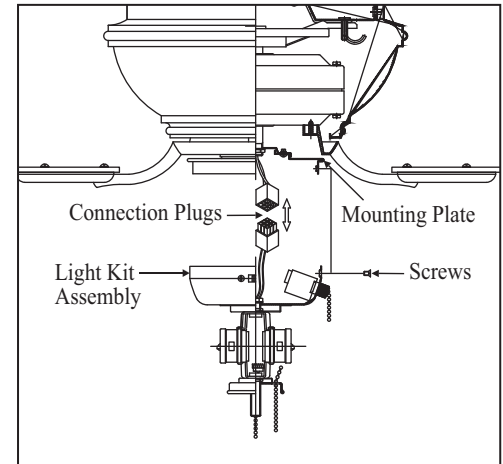

Figure 13
2. Raise and hold the light kit assembly close to the mounting plate and snap together the wire connection plugs. (Fig. 13)
3. Place the key holes on the light kit assembly over the 2 screws previously loosened from the mounting plate, turn light kit assembly until it locks in place at the narrow section of the key holes. Secure by tightening the 2 screws previously loosened and the one previously removed. (Fig. 13)